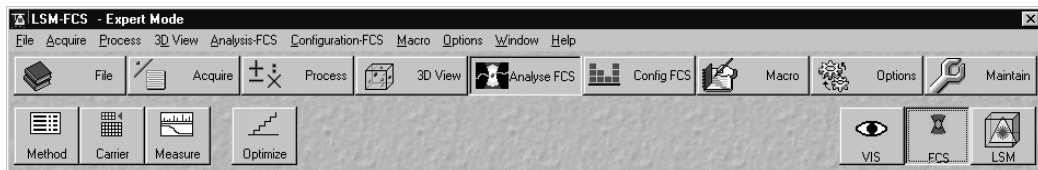

Fig. 5-162 Analyse FCS menu
- Click on the **Carrier** button in the **Analyse FCS** subordinate toolbar of the **Main** menu (Fig. 5-162).